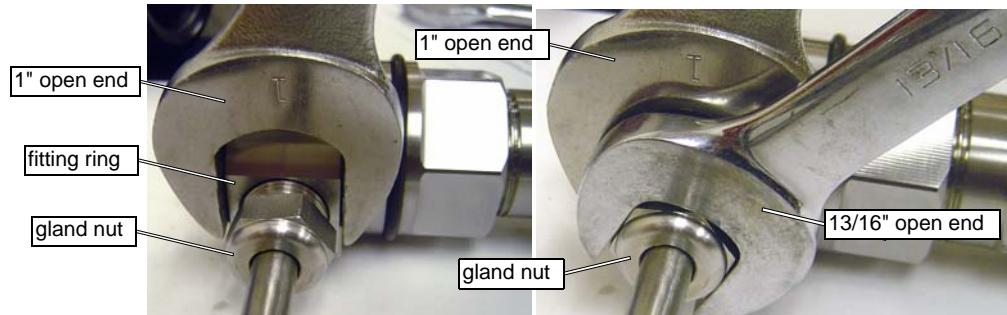

Figure 6-92: Loosening the Valve Gland Nut using Two Open End Wrenches
8. Remove the **gland nut** from the fitting ring (Figure 6-92) and carry the **Dual ON/OFF Valve Assembly** to a clean work area for rebuilding.
- Tighten the UHP input line using the 13/16" and 1" open end wrenches. Tightened to 50 ft-lb (no greater than 75 ft-lb. Refer to Figure 6-92.